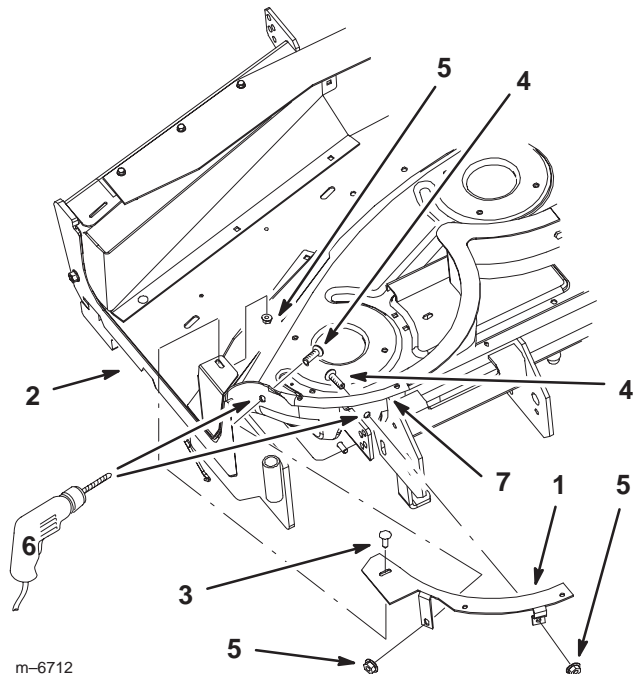

Figure 15
4. Using the baffle as a template, mark, center punch and drill 1/8 inch pilot holes at the 2 locations (Fig. 15).
5. Drill 11/32 inch dia. holes through the pilot holes (Fig. 15).
7. Install the right rear baffle to the mower with 2 button head socket bolts (5/16 x 3/4 inch) and 2 flange nuts (5/16 inch) (Fig. 15).
8. Install the right rear baffle to the rear tunnel baffle with a carriage bolt (5/16 x 5/8 inch) and a flange nut (5/16 inch) (Fig. 15).
Important Make sure the button head socket bolt heads are installed on the inside of the cutting chamber. See figure 15.